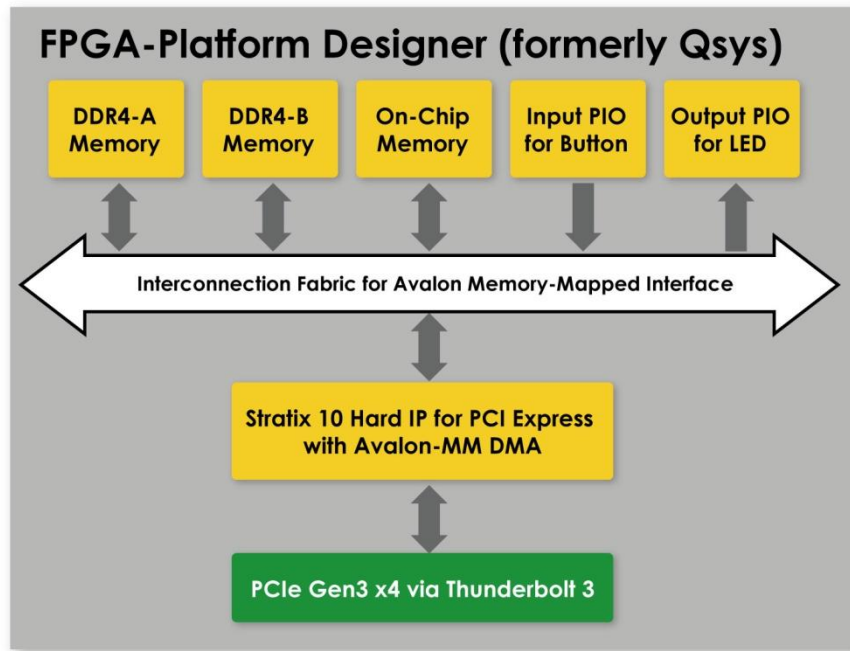

Figure 5-15 Hardware block diagram of the PCIe\_DDR4 reference design
**Figure 5-15** shows the system block diagram in the FPGA system. In the **Platform Designer** (formerly Qsys), the PIO controller is used to control the LED and monitor the Button Status, and the On-Chip memory is used for performing DMA testing. The PIO controllers and the On-Chip memory are connected to the PCI Express Hard IP controller through the Memory-Mapped Interface.